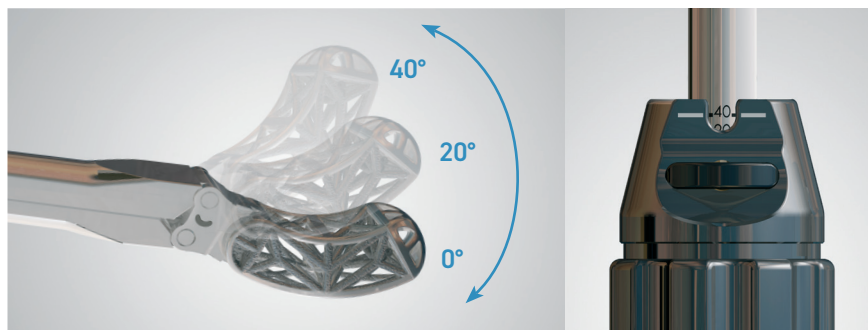

Figure 14
- ▲ Introduce the implant into the prepared interbody space. Advance the implant into the disc space by tapping on the proximal end of the inserter. Once the implant is fully within the disc space, begin gradual articulation of the implant by rotating the articulating steering module clockwise in between tapping until the articulation has reached 40° or anterior placement of the implant has been achieved (Fig. 14).